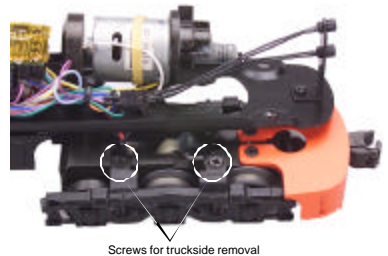

Figure 4. Screws to Remove to Access the Traction Tires
1. Remove the truck sides from the truck block in order to slip the new tire over the grooved drive wheel. To do this, remove the screws as shown in Fig. 4.